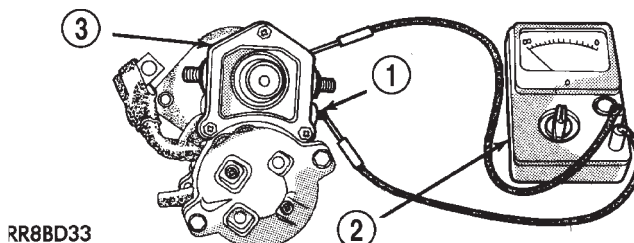

Fig. 8 Continuity Test Between Solenoid Terminal and Solenoid Case - Typical
(4) Check for continuity between solenoid terminal and solenoid case (Fig. 8). There should be continuity. If not OK, replace faulty starter motor assembly.